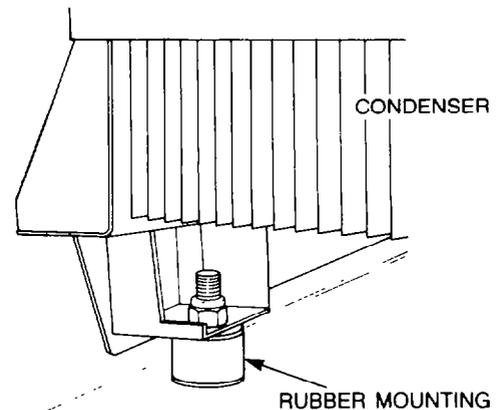

Figure 15 — Condenser Mounting — Removal
- e. Remove the lock nuts retaining the condenser assembly to the rubber mounting points (see Fig. 15), then with the aid of an assistant, lift the condenser unit up and out of the condenser recess. Discard the lock nuts.